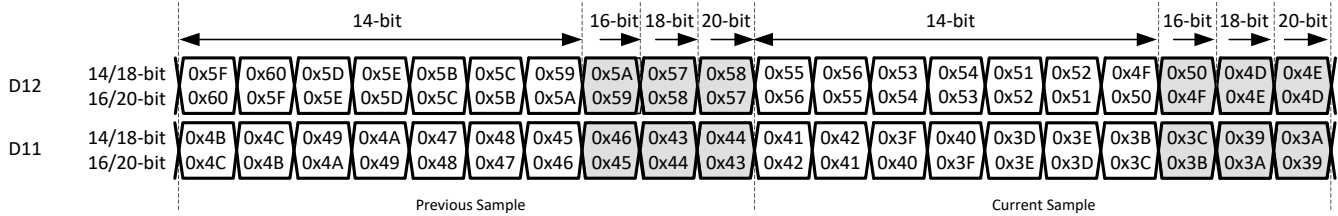

图 8-39. 2-wire output bit mapper
**2-wire mode:** in this mode, both the current and the previous sample have to be used in the address space as shown in 图 8-39. The address order is different for 14/18-bit and 16/20-bit. Note: there are unused addresses between samples for resolution less than 20-bit (grey background), which can be skipped if not used.